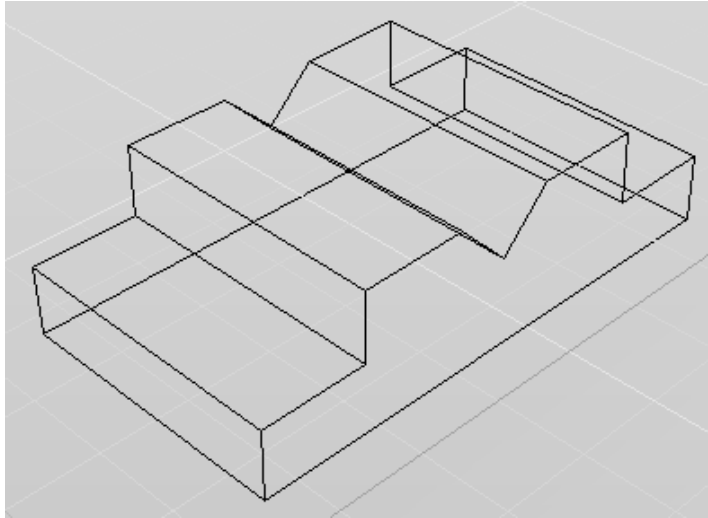

Figure 25-37 Final 3D wireframe model for Example 2
5. The final 3D model should look similar to the one shown in Figure 25-37.